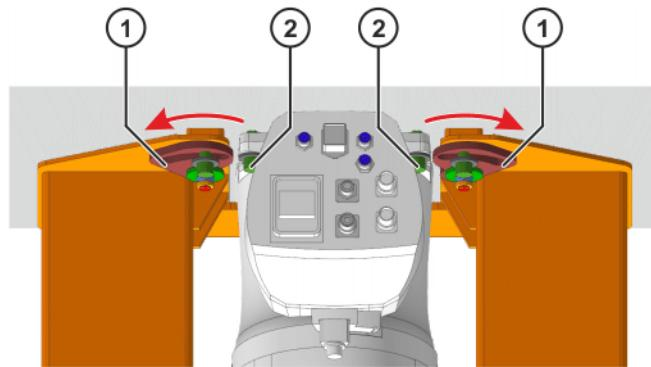

Fig. 8-13: Rotating the swivel holders outwards
16. Rotate the swivel holders outwards (**>>>** Fig. 8-13).